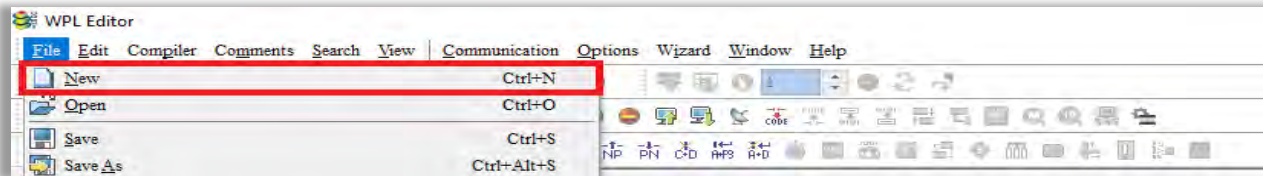

Figure 16-5
**NOTE:** You can also find “New file (N) (Ctrl+N)” in the "File (F)", as shown in figure 16-5 below.